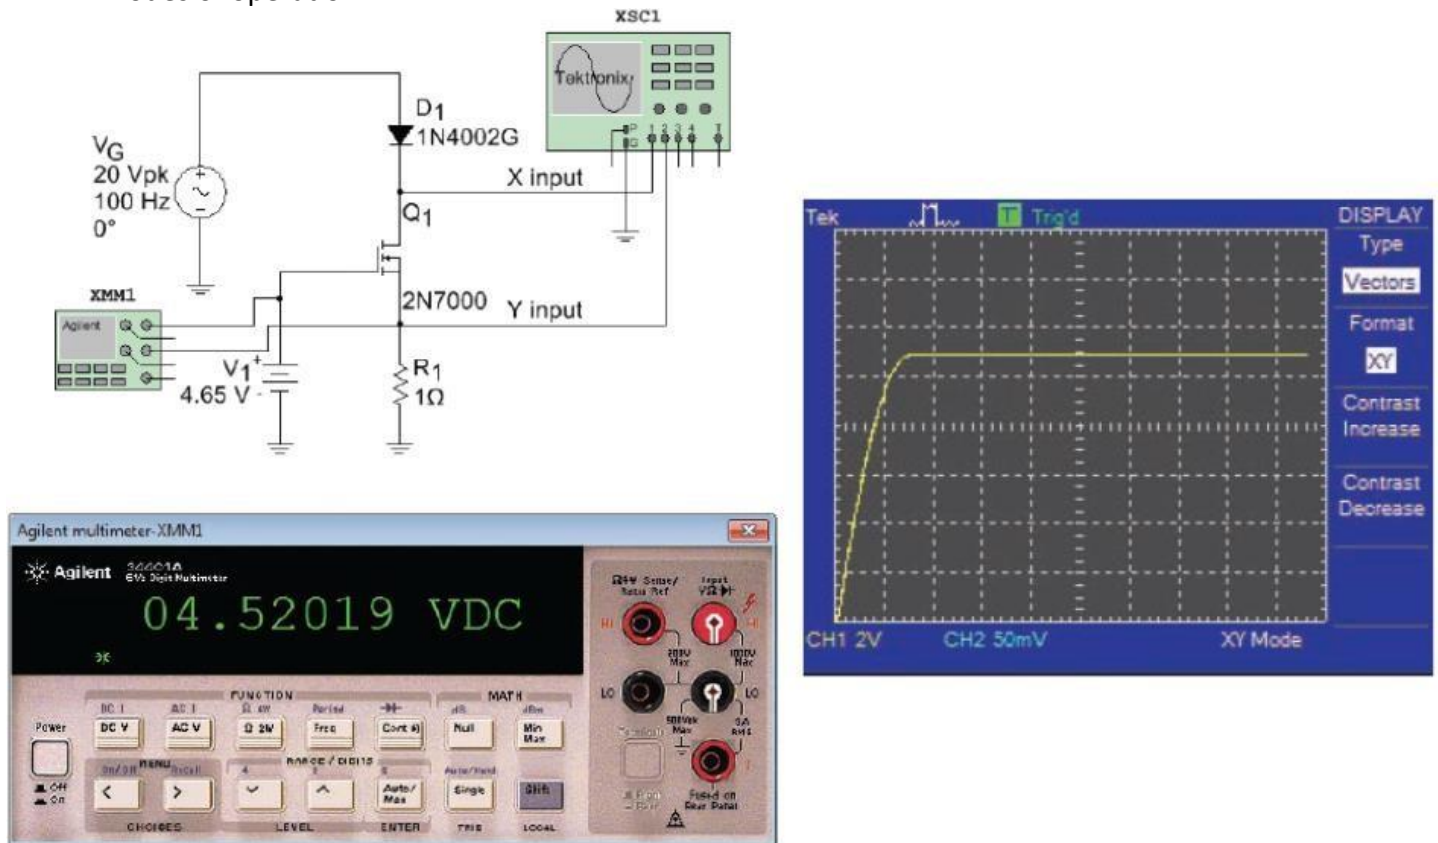

Figure-35 MOSFET testing
- If a curve tracer is not available, special test circuits can be constructed. Figure-35 shows a circuit capable of testing both depletion-mode and enhancement-mode MOSFETs. By changing the voltage level and polarity of V_1 , the device can be tested in either depletion or enhancement modes of operation.
- The drain curve shown in Figure-35 shows the approximate drain current of 275 mA when, $V_{GS} = 4.52$ V. The y-axis is set to display 50 mA/div.